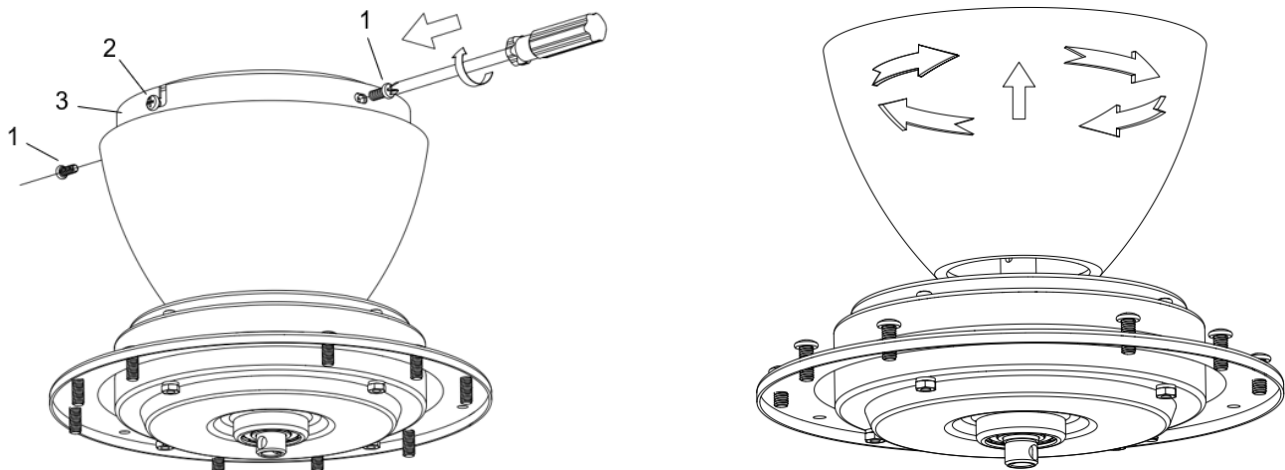

Fig. 7
- Secure and tighten the canopy screws (1) to the mounting bracket. The hanging canopy (3) shall have 4 screws (1) & (2) in total. Avoid damaging the electrical wiring prepared previously when hanging the canopy. (Fig.7)
- Align the inner grooves of the motor housing up to the screws of the mounting bracket. Finally, attach the motor housing to the hanging plate of the fan assembly and secure it by anticlockwise. (Fig.7)